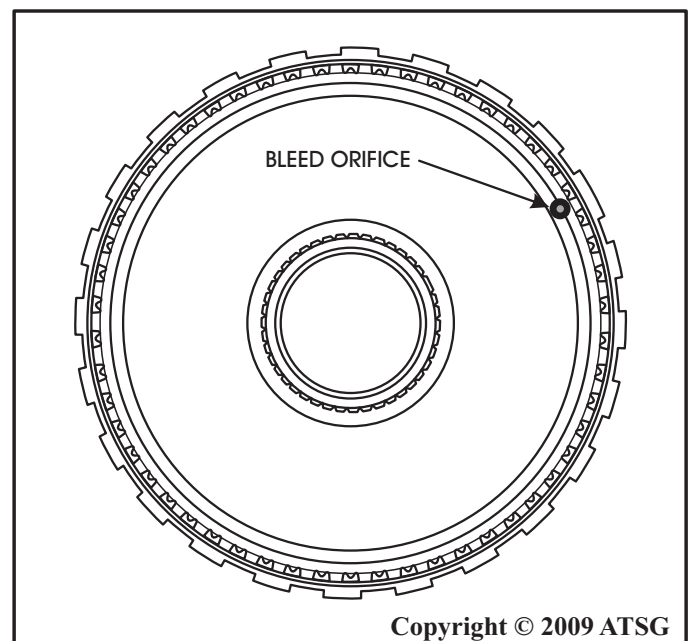

Figure 52
2. Check the bleed orifice in the bottom of the low/reverse clutch housing to ensure that it is not plugged or restricted (See Figure 52).